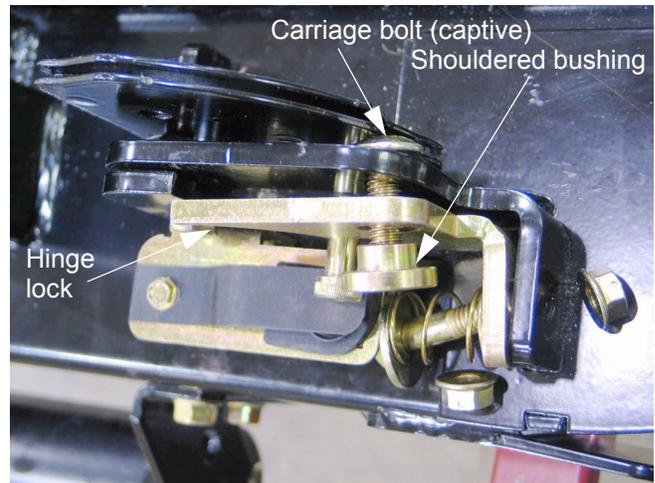

Figure 10.10
10.10. Once the spring is released, remove the nut from the carriage bolt that secures the hinge lock and its shouldered bushing to the bracket on the deck wing. See Figure 10.10.